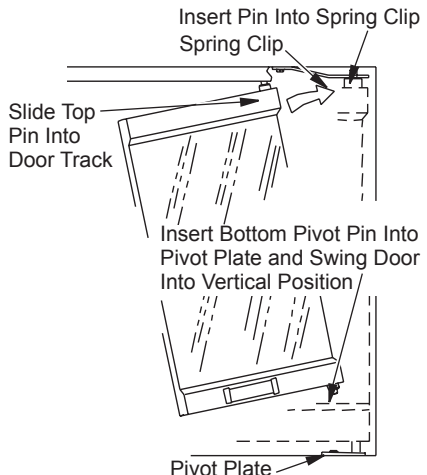

Figure 33 - Installing Optional Glass Door
2. With handle facing center of firebox opening, insert lower pivot pin on glass door panel into hole in pivot plate on bottom edge of fireplace opening (see Figure 33).
4. Tilt glass assembly fully vertical until outer pivot pin snaps into mounting hole in upper spring clip (see Figure 33).